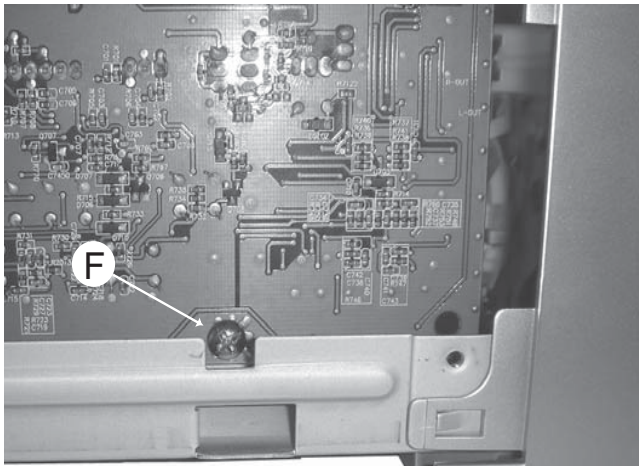

Figure 9
- 2) Loosen 1 screw 'F' at the side of the set as shown in Figure 9.